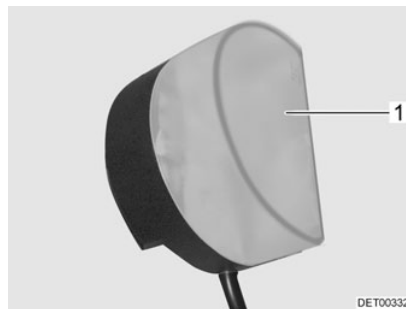

Fig. 100 Wardrobe light
- Press the light covering (Fig. 100,1) lightly together and remove it.